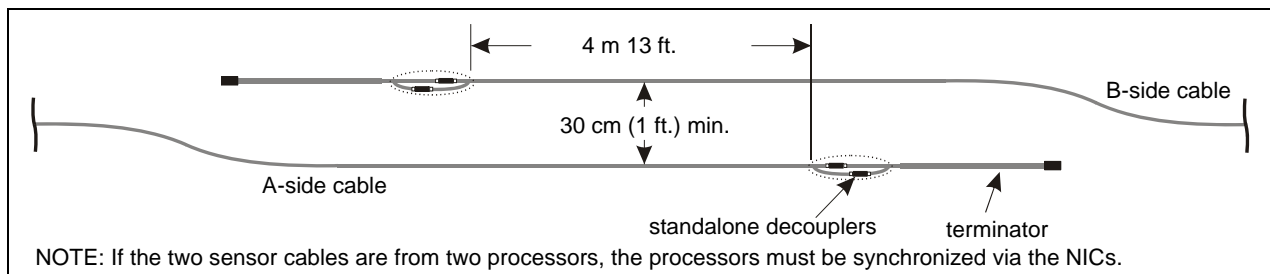

Figure 118: Overlapping SC1 cable sets (method 2)
- Refer to Figure 118; and the site plan to dig trenches or excavate the installation location for the decouplers.